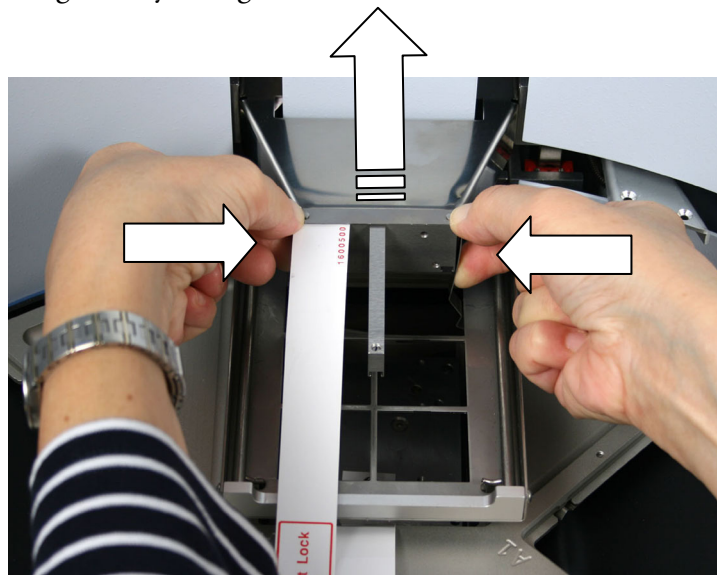

Figure 3-10. Removing the transport lock of the tip comb holder
1. To remove the transport lock of the tip comb holder, take firmly hold of the lock and press tightly on both sides of the lock according to Figure 3-10 so that the lock ends are released. Keep hold of the tip comb holder and lock simultaneously and start gradually lifting the holder.